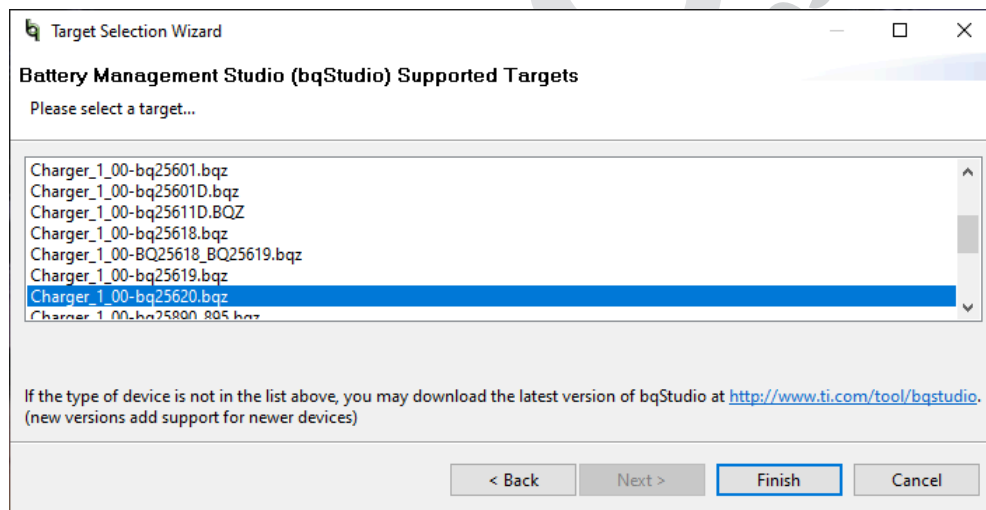

Figure 2-3. BQStudio Charger Selection Window
2. Select the appropriate configuration file based on the device from the window shown in Figure 2-3.